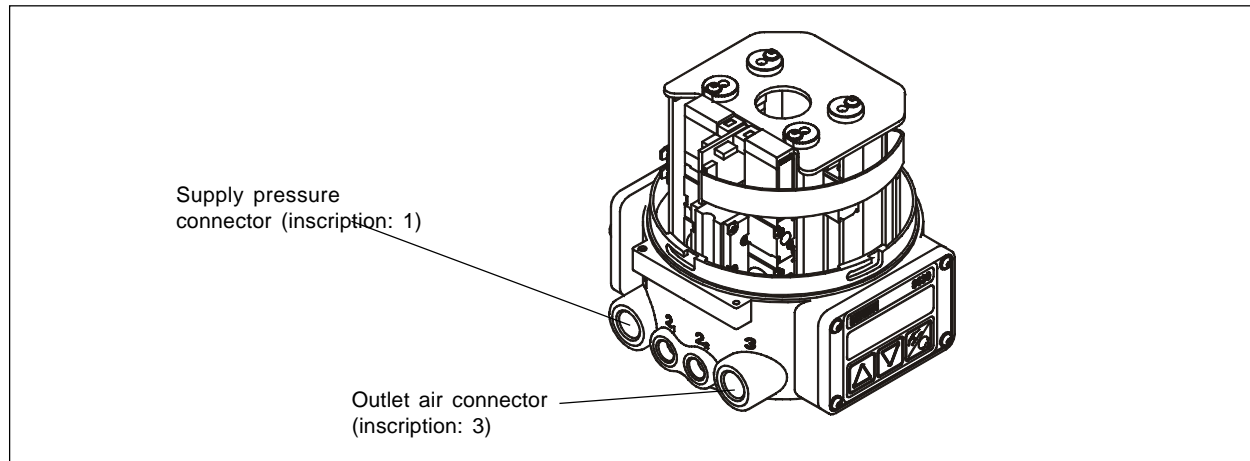

Bild 5.1: Fluidic connections of the TopControl
- Connect the air supply (3..7 bar, instrument air, oil, water and duster) to port 1 (Fig. 5.1).
- Mount the exhaust air pipe or noise reducer on port 3 (Fig. 5.1).